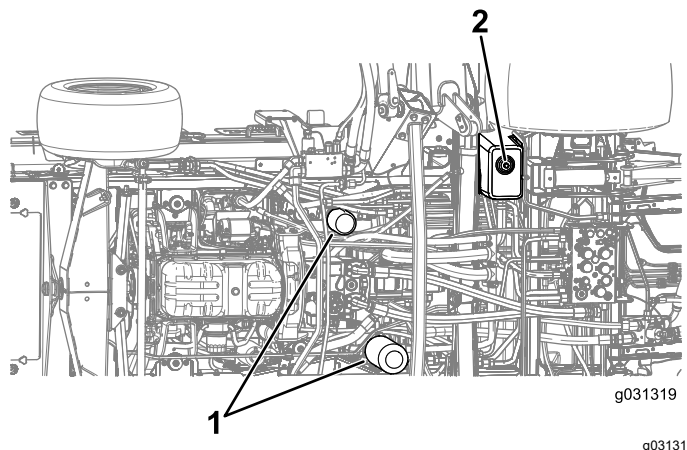

Figure 132
4. Remove the drain plug from the bottom of the tank and let the hydraulic fluid flow into the pan (Figure 132).
3. Place a drain pan under the filter and remove the filter (Figure 132).